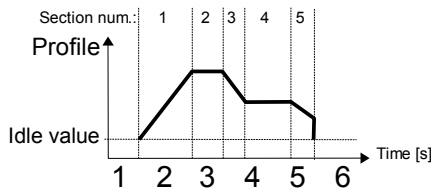

Fig. 7.102. Sample of Profile/timer
- level (gate) – this means that configured by user Profile is generated when source signal will have a value > 0 , otherwise (if source value ≤ 0) defined Profile will not be generated. See Fig. 7.102 and example a) in Fig. 7.103,
- edge (once) – this means that configured by user Profile will be triggered by the rising edge (from values ≤ 0 to the value > 0) of source signal. After the rising edge the Profile will be generated in whole (once), regardless of further changes to the signal source, see Fig. 7.102 and example b) in Fig. 7.103,
- edge (re-triggering) – this means that configured by user Profile will be triggered by the rising edge (from values ≤ 0 to the value > 0) of source signal. However, in this mode, unlike the edge (once) mode the defined Profile will be generated from the beginning every time when the Triggering source signal will generate an edge, whether that Profile had been completed or not. See Fig. 7.102 and example c) in Fig. 7.103,
Fig. 7.103. Samples of Profile output waveforms defined in Fig. 7.102, triggered by signal selected in Triggerring source parameter for Triggerring mode: level (gate), edge (once), edge (retrig.)